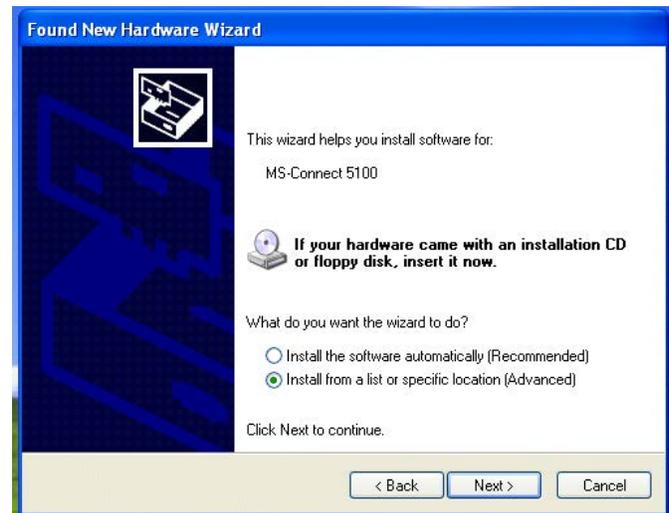

FIG. 15: Load Software from a Specific Location
3. FIG. 15 will appear. Insert the CD in your PC's CDROM drive. Select "Install the software from a list or specific location", then click Next. The program location is C:\Program Files\Graco\GracoConfig\Device.